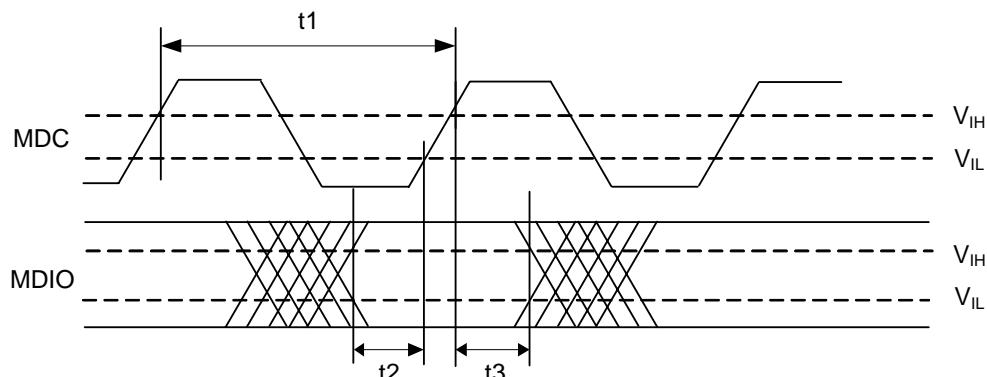

Figure 23. MDIO Sourced by Master (MAC)
- The timing characteristics t1, t2, and t3 (Figure 23) of the Master (MAC) are provided by the Master when the Master sources the MDIO signal (Write command)